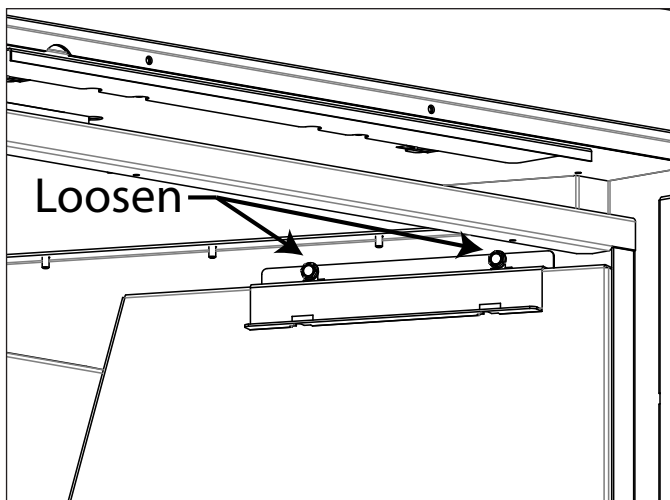

Figure 10: Liner Retainer Removal
1. The component access panel is located behind the right liner panel. Loosen the two (2) bolts on the right liner retainer using a 5/16" socket until it can be removed. See Figure 10.